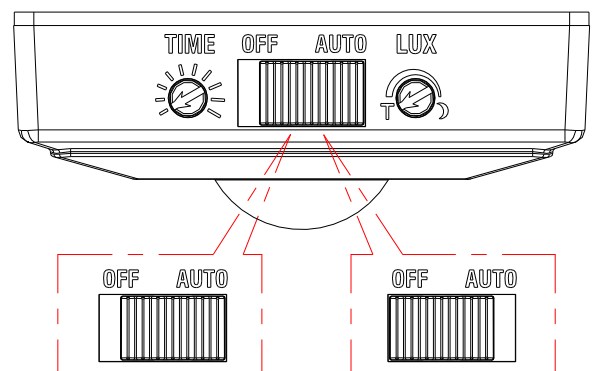

FIGURE 7
- Turn the Lux control and the Time control counter-clockwise to the edge-the TEST position (FIGURE 7)